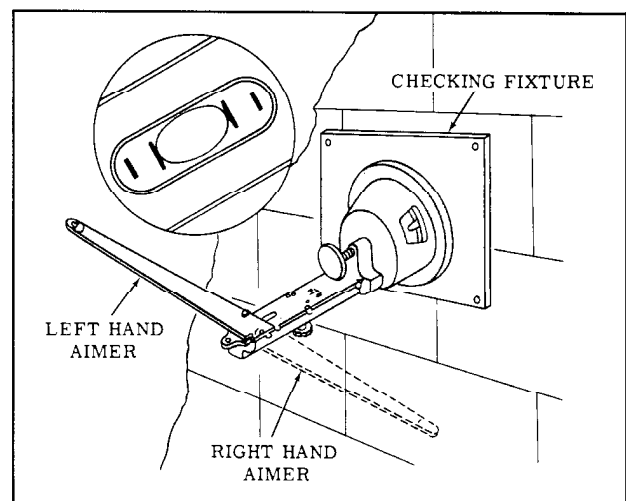

Fig. 13-82 Vertical Check of Aimers
4. Hold the seating plane of the aimer in contact with the 3 screws and with the horizontal arm parallel with the floor (Fig. 13-82) The
- With the numeral "2" in the DOWN window of the aimer, hold the aimer seating plane against the 3 screws on the plywood board with the horizontal arm parallel to the floor (Fig. 13-82) If the bubble is centered, the aimer is in calibration.